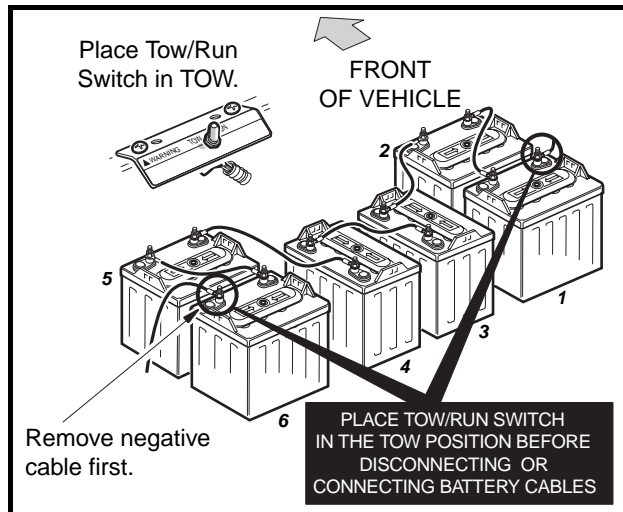

Figure 14-5 IQ System Battery Configuration
5. Install batteries in the proper orientation (**Figure 14-5, Page 14-4**). Install battery hold-downs. The hold-downs should be tight enough so batteries do not move while vehicle is in motion, but not so tight as to crack or buckle battery case. Tighten to 40 in-lb (4.5 N·m), alternating between hold-down bolts.
6. Install wires in proper sequence (**Figure 14-5, Page 14-4**). Install black wire to negative post of battery no. 6 last. Make sure all connections are tight. Tighten to 110 in-lb (12.4 N·m). Coat all terminals with Battery Terminal Protector Spray (CCI P/N 1014305) to minimize future corrosion.
When the batteries are fully charged, disconnect the charger DC plug. Wait 20 to 30 seconds and reconnect the DC plug to restart the charger. After 5 minutes, use a multimeter to check and record the voltage of the battery set as well as the individual batteries. Set the multimeter to 200 volts DC. Place the red (+) probe on the positive (+) post of battery no. 1 and the black (-) probe on the negative (-) post of battery no. 6 (**Figure 14-5, Page 14-4**). Record reading. Then set multimeter to 20 volts DC and place the red (+) probe on the positive (+) post and the black (-) probe at the negative (-) post of each battery. Record the readings.